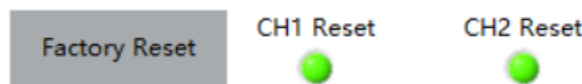

Figure 5.6.9 Restore factory settings
- Click the "Factory Reset" button to erase the original angle programming data. (If the chip is being programmed for the first time, this step can be skipped) After erasing is completed, the "Factory Reset" indicator light will turn green (Figure 5.6.9)